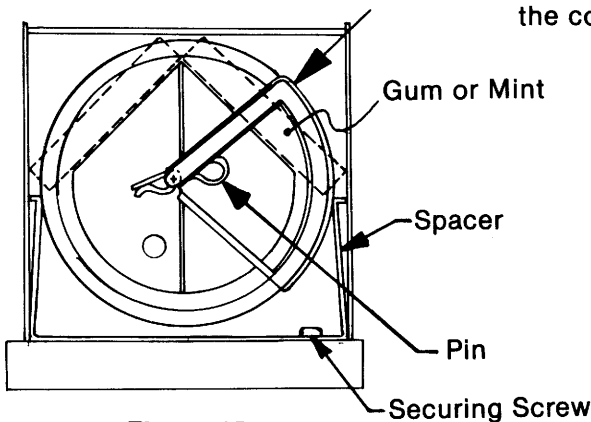

Figure 15
5. Position front of helix as shown by arrow in Figure 15.